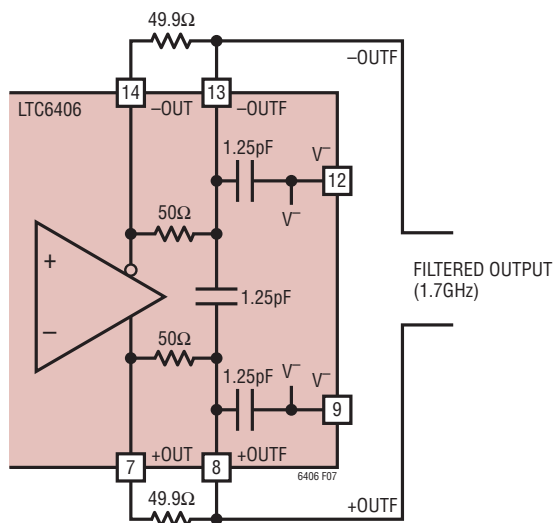

Figure 7. LTC6406 Filter Topology Modified for 2x Filter Bandwidth (Two External Resistors)
1.25pF (tolerance $\pm 15\%$) capacitor connected between the two filtered outputs. This resistor/capacitor combination creates filtered outputs that look like a series 50 Ω resistor with a 3.75pF capacitor shunting each filtered output to AC ground, providing a -3dB bandwidth of 850MHz, and a noise bandwidth of 1335MHz. The filter cutoff frequency is easily modified with just a few external components. To increase the cutoff frequency, simply add two equal value resistors, one between +OUT and +OUTF and the other between -OUT and -OUTF (Figure 7). These resistors, in parallel with the internal 50 Ω resistors, lower the overall resistance and therefore increase filter bandwidth. For example, to double the filter bandwidth, add two external 50 Ω resistors to lower the series filter resistance to 25 Ω . The 3.75pF of capacitance remains unchanged, so filter bandwidth doubles. Keep in mind, the series resistance also serves to decouple the outputs from load capacitance. The outputs of the LTC6406 are designed to drive 5pF to ground, so care should be taken to not lower the effective impedance between +OUT and +OUTF or -OUT and -OUTF below 15 Ω .